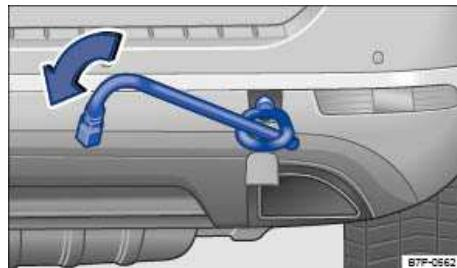

Fig. 353 In right rear bumper: Screwing in towing eye.
- Screw the towing eye **counterclockwise** into the threaded hole as far as it will go ⇒ fig. 353 (arrow) ⇒ ①. Use the lug wrench to turn and tighten the towing eye.